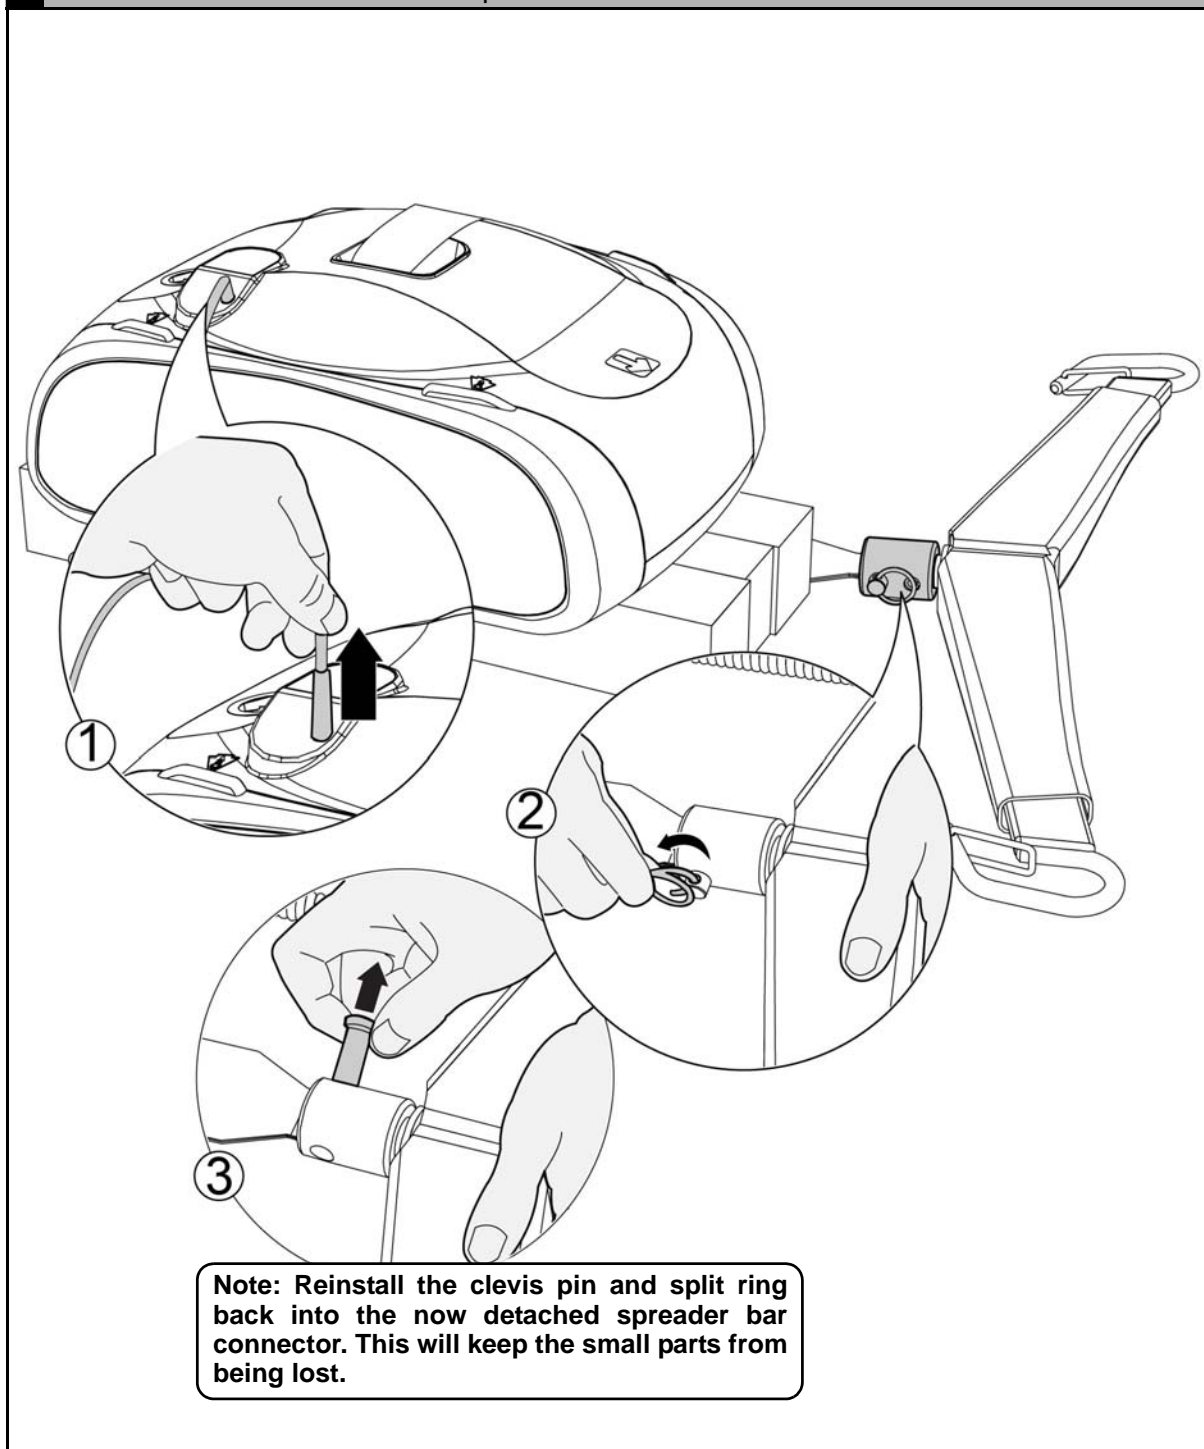

Fig. 7
- ① Follow the initial steps as explained in Fig. 3, Fig. 4. and Fig. 7
- ② Unplug the handset jack from its socket located on the plastic housing, unravel the cable from the strain relief and unclip the handset cable from the plastic housing.